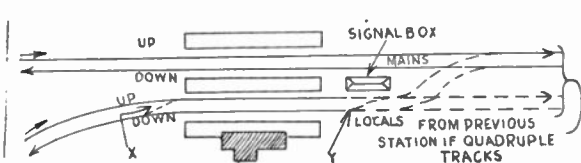

Fig. 4
The lid is just a flat block of wood $1\frac{1}{2}$ in. thick cut to fit neatly inside the press, leaving a margin of not more than $\frac{1}{4}$ in. round the sides. The fulcrum is fixed across the centre (see Fig. 4), and this also acts as a handle for lifting out the block. Cut a length of $1\frac{1}{2}$ in. square wood $4\frac{1}{2}$ ins. long, taper and round off the top as in Fig. 4, and fix in position with two brass screws. If the screws are inserted from underneath they must be filed off flush, but it is better, however, to fix them from the top.
If parallel tracks are run in quadruple form (a very rare occurrence in model form) as shown in Fig. 4, it is obvious that branch-line stopping trains are held clear of the actual junction without the use of either a burrowing junction or a fly-over junction; though branch-line trains can arrive at the station platforms to be reversed and run back if cross-overs for engine round are duly provided at (X) and (Y).